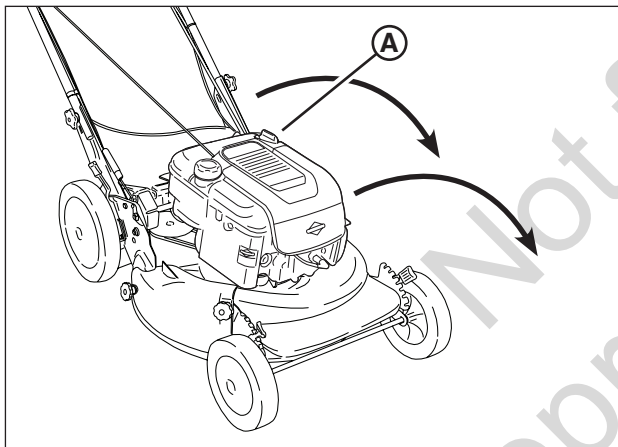

Figure 13: Draining the engine oil
2. Remove the dipstick (**A, Figure 13**), then turn the mower on its side. Allow the oil to drain from the oil fill tube into an appropriate container. Dispose of used oil properly.